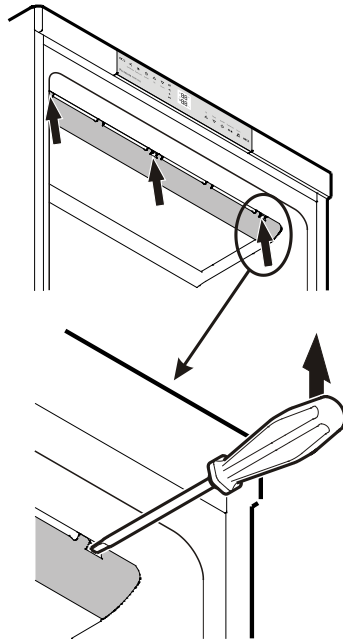

Figure 11
1. Unlatch carefully the cover at left, middle and right using a screwdriver - **Fig. 11**.